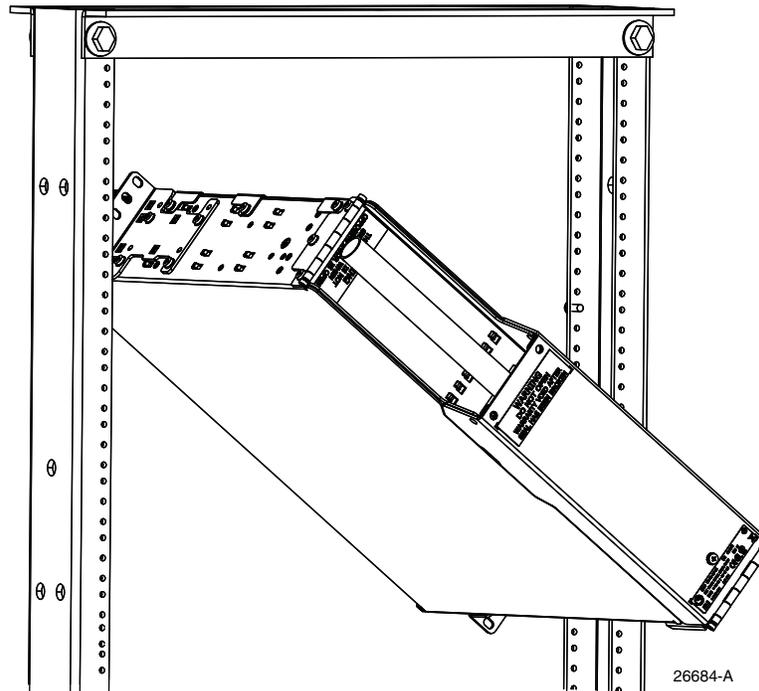

Figure 13. Rotating the Panel to Fit It on the Rack
- a. When neighboring rack locations are open, rotate the panel and feed it through the rack, as shown in Figure 13. Ensure the cable does not get kinked or twisted.